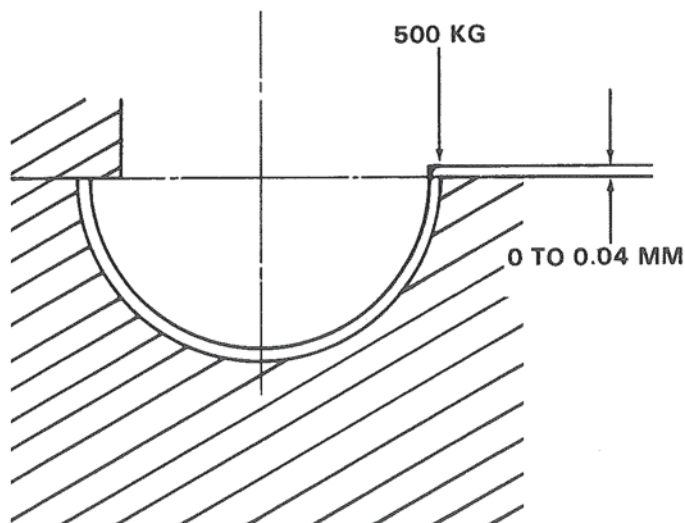

Figure 35. Main Bearing Fitting.
3. Maintain load and check bearing projection above centerline. Bearing must be flush to 0.04 mm. above centerline. Figure 35.